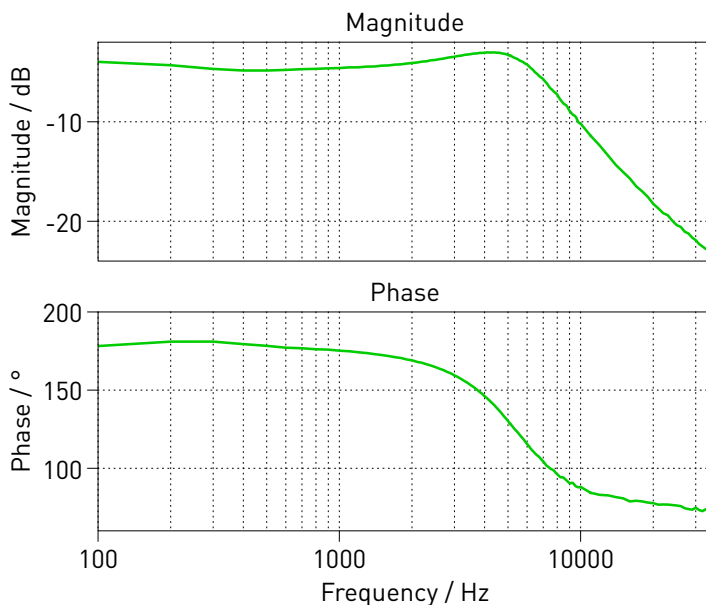

Figure 3: Open-loop transfer function for the half-bridge LLC resonant converter
- *Standalone:* Choose **Analysis tools...** from the **Simulation** menu. Run the Multitone Analysis for the “OpenLoopAnalysis” analysis. This provides the transfer function for the open-loop system. The result is shown in Fig. 3.